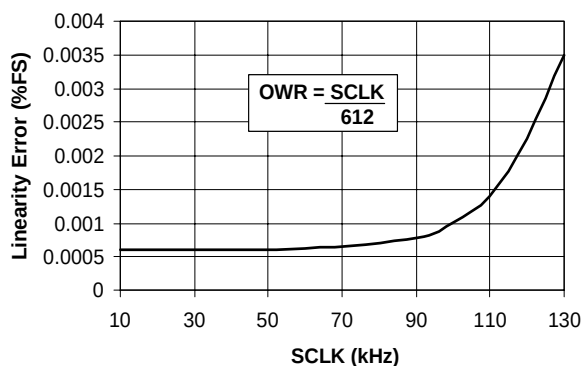

Figure 14. Typical Linearity Error for CS5510.
- Notes: 20. Device parameters are specified with 32.768 kHz clock; however, clocks up to 130 kHz (CS5510) or 200 kHz (CS5512) can be used for increased throughput. Higher clock rates will result in degraded linearity specifications, as shown in Figures 14 and 15.
Note that the CS5510 can operate with an external (CMOS compatible) clock at frequencies up to 130 kHz, and the CS5512 can operate with an external clock of up to 200 kHz with a maximum 22ns of jitter. Linearity performance is degraded slightly with higher clock speeds, as shown in Figures 14 and 15. The noise performance of the parts, however, is not affected by higher clock speeds.